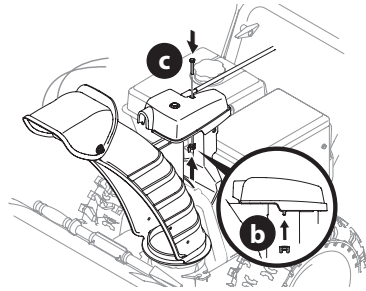

Figure 38
4. Finish securing chute control head by installing hex screw (c) and wing nut (b) removed in Step 1 (Figure 38).